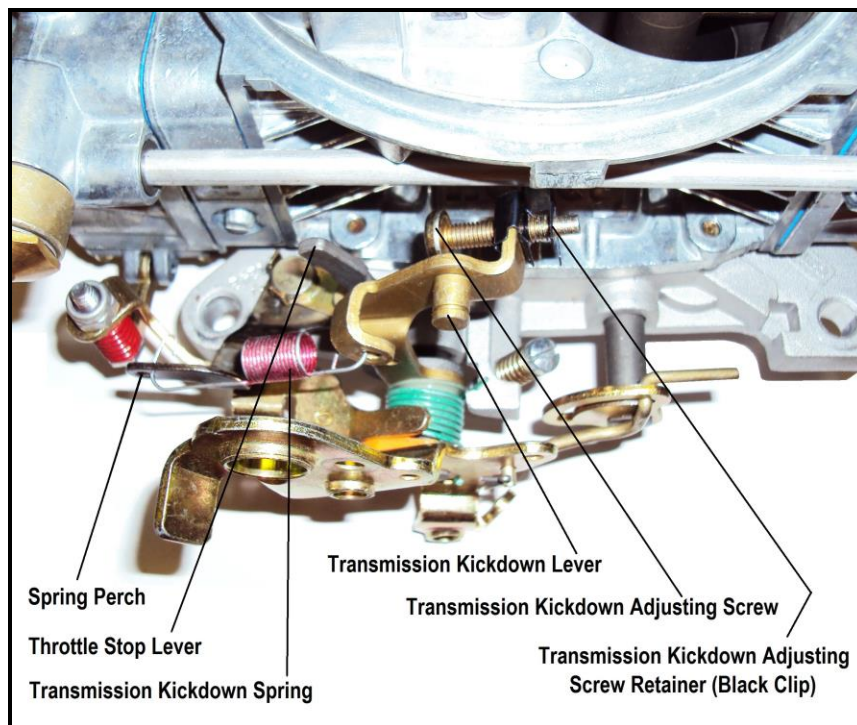

Figure 2—Ford applications
2. Insert the transmission kickdown screw with the black retaining clip on the transmission kickdown lever (Figure 2). This assembly must be installed according to the detailed drawing (Figure 3). See the appropriate service manual and page 8 of these instructions for proper transmission adjustment.
4. Install the transmission kickdown spring between the transmission kickdown lever and spring perch (Figure 2).